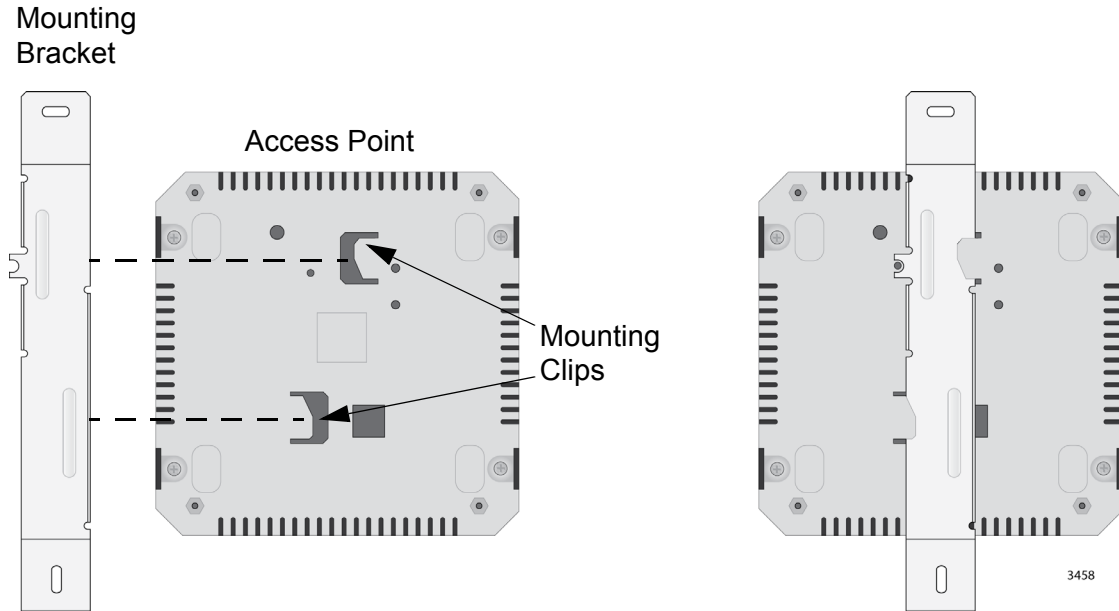

Figure 9. Inserting the Mounting Bracket
1. Insert the mounting bracket under the clips on the bottom of the access point to lock the bracket in place, as shown in Figure 9.